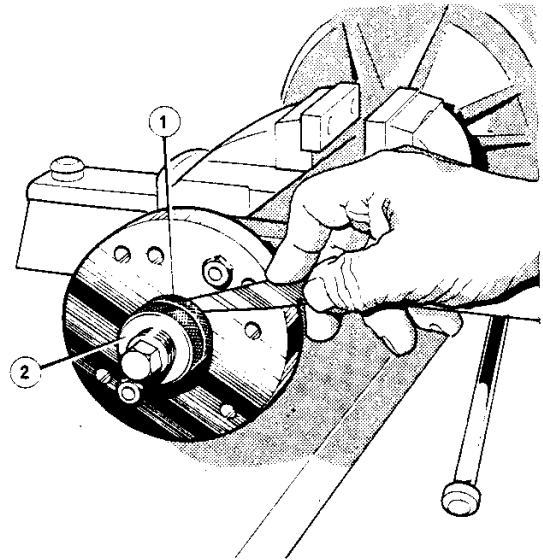

Figure 9 Determining overall differential end float using gauging tool
10. Using the three legged puller tool No. RT 3072-1 on slide hammer tool No. 3072, remove the axle housing outer bearing cones (**Figure 9**).
4. Assemble the components of the tool (**Figure 9**), screwing the circular plates on to the push rods. Insert these through the axle tube, ensuring that the swivel pad on each end is felt to locate in each side of the differential carrier bore. Screw plates up to the axle tube and secure with the bolt supplied. Unscrew both rods slightly before
5. Unscrew the right-hand side push rod approximately 3.2 mm (1/8 in). Screw in the left-hand push rod with a load of 2-4 lb/ft maximum, thus pushing the differential assembly over in to the right-hand housing. Screw up the gauging nut lightly to the face of the circular plate. Carefully screw the locking nut up to the gauging nut and screw the push rod back approximately 3.2 mm (1/8 in), ensuring the gauge nuts move with the screw as they come away from the plate. Screw in the right-hand push rod 2-4 lb/ft maximum, thus pushing the differential unit in to the left-hand axle housing. Screw in the left-hand push rod until a stop is felt. Measure the gap between the circular plate and the gauge nut with a feeler gauge and record the figure (Figure 9) which will represent the overall end float.